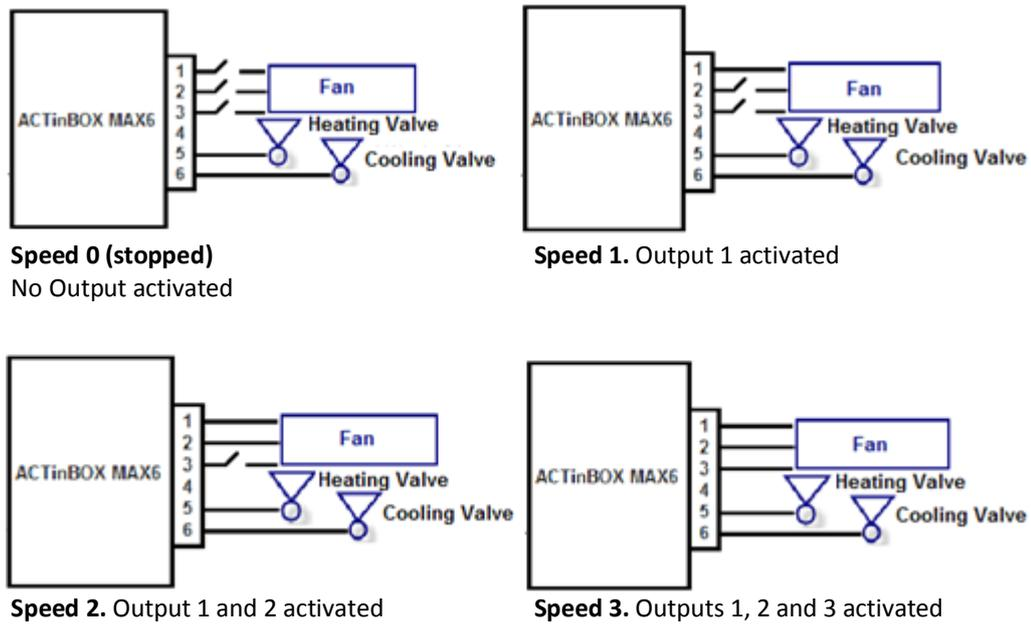

Figure 3.6. Ventilation speed control by accumulation
- **Accumulation** (some relays on): ventilation level is proportional to the number of outputs activated (see figure 3.6).